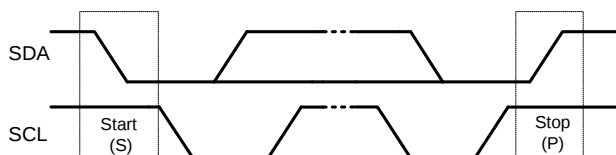

Figure 12: Start and Stop Commands
All transactions begin with a start (S) command and are terminated by a stop (P) command. A start command is defined as a high-to-low transition on the SDA line while SCL is high. A stop command is defined as a low-to-high transition on the SDA line while the SCL is high (see Figure 12).